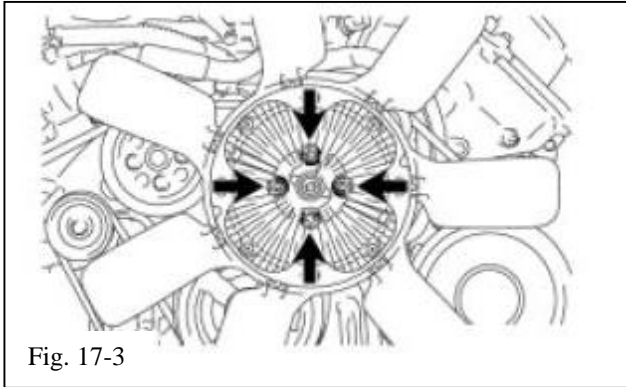

Fig. 17-3
- (e) Use the 4 OE nuts to attach the fan clutch to the fan pulley (Fig. 17-3).